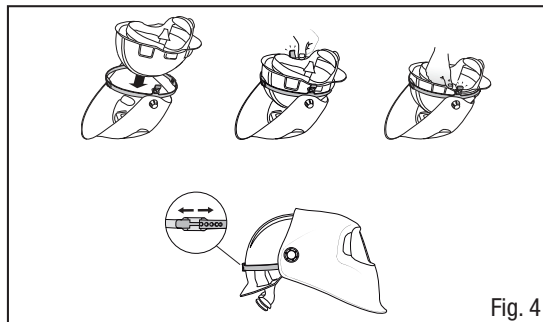

Fig. 4
3. Attach the 3M™ Speedglas™ 100 assembly to the hardhat as shown in Fig. 4 and adjust the hardhat adapter "pin lock" for a tight fit around the hardhat for a completed assembly.